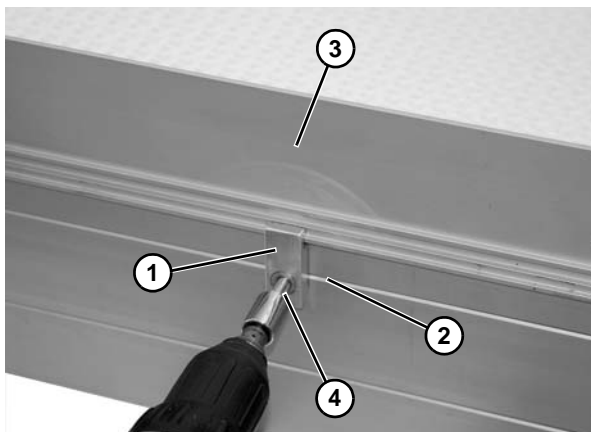

Figure 31
1. Lay out retaining clip (**Figure 31, item 1**) locations. The end clips should be no greater than 12" from end of the conveyor. Hole should line up with notch (**Figure 31, item 2**) in side rail.
2. Hold guide (**Figure 31, item 3**) and retaining clip (**Figure 31, item 1**) to conveyor side rail. Install self-drilling screws (**Figure 31, item 4**) following the "Proper Methods of Attaching Guiding to Side Rails (SmartSlot Frames Only)" on page 11 procedure.